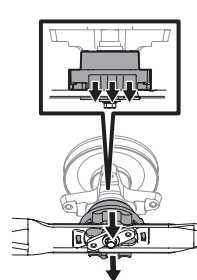

Figure 8
- There will be an audible click when the blade is properly locked in place. See Figure 8.